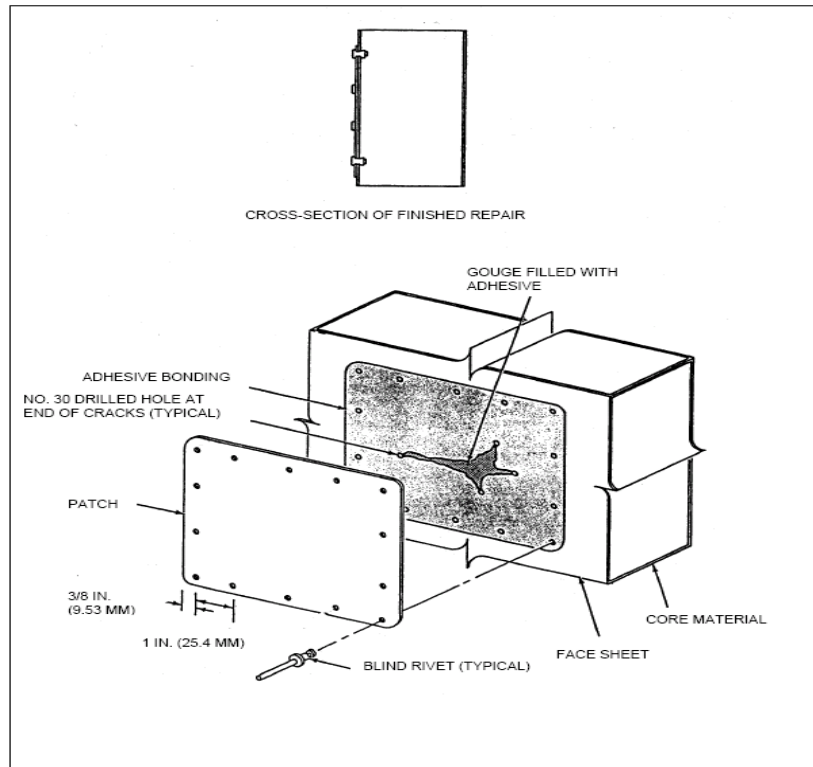

Figure 4-58. Typical repair procedure for punctures less than 1/2 inch (12.70 mm)
The following procedures should be used to repair skin punctures with a diameter less than ½ inch (12.70mm) or a depth in core of less than ½ inch (12.70mm) (see Figure 4-58). Proceed as follows:
5. Layout rivet hole pattern around edge of patch as shown in Figure 4-58.
10. Fill cavity panel as shown in Figure 4-58 using dent filler, Devcon F (Item 20, WP 0057 00).